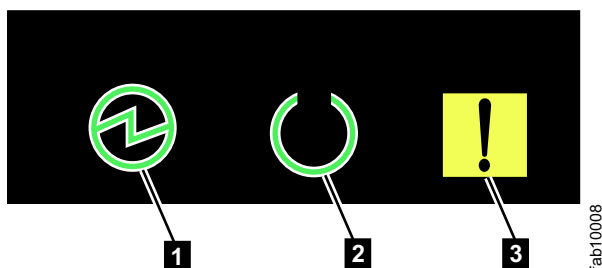

Figure 41. Power LEDs on a node canister
3. Wait for the power LEDs on all node canisters in all control enclosures to blink at 1 Hz, indicating that the shutdown operation completed, as shown in Figure 41.